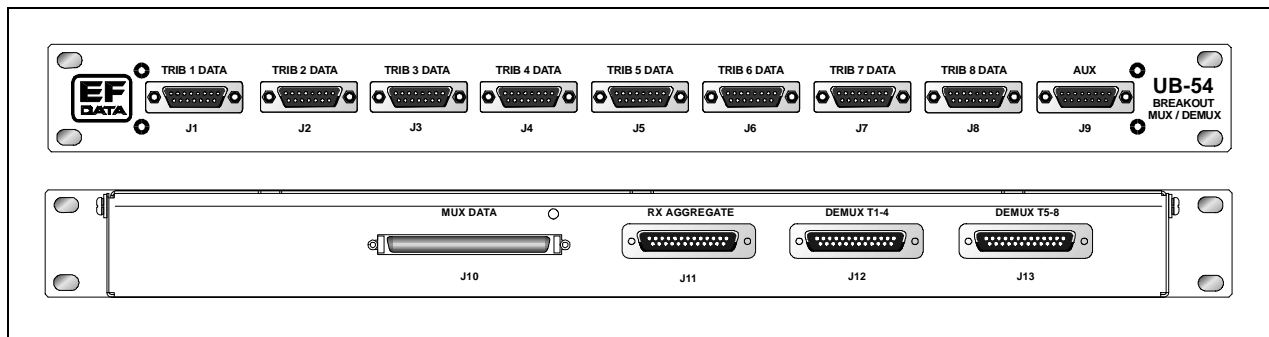

Figure 2-1. UB-54 Front and Rear Views
3. Connect the cables to the front and/or rear panel (refer to Figure 2-1). Refer to Section 2.3 for connector pinout, placement, and function.
The location of the connectors are shown in Figure 2-1. Refer to Table 2-1 for a list of UB-54 front panel connectors.